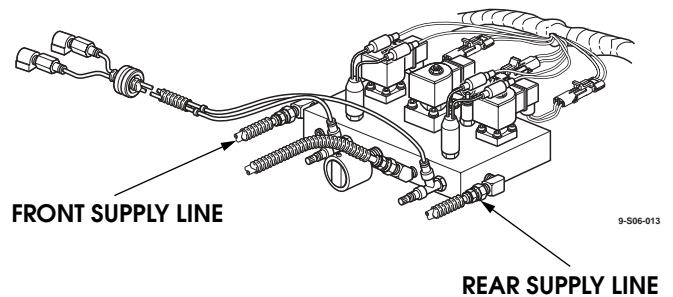

Figure 6-67: Front and Rear Supply Line Connections
1. Disconnect supply line at pump/valve assembly (Figure 6-67).